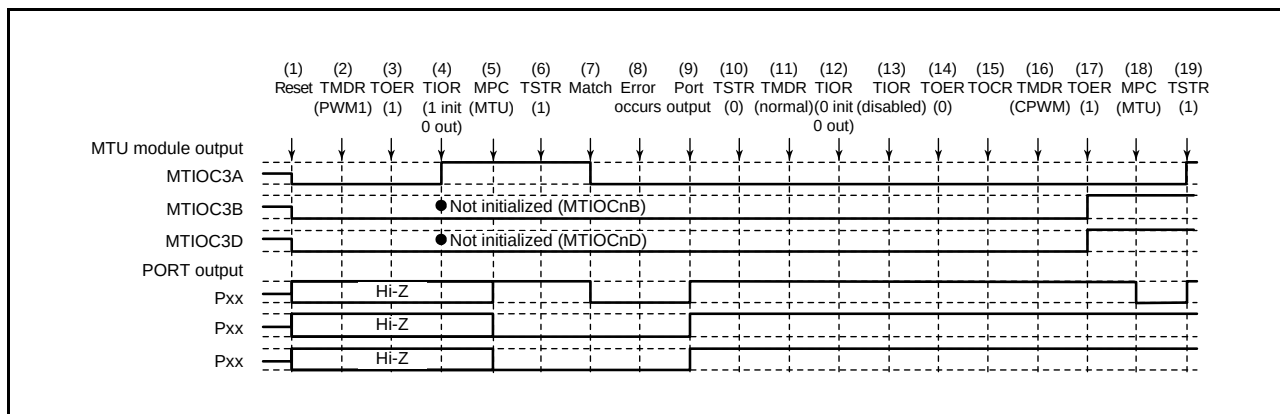

Figure 23.126 Error Occurrence in PWM Mode 1, Recovery in Complementary PWM Mode
Figure 23.126 shows a case in which an error occurs in PWM mode 1 and operation is restarted in complementary PWM mode after re-setting.
(1) to (14) are the same as in Figure 23.126.
(15) Select the reset-synchronized PWM mode output level and enable or disable cyclic output with the TOCR register.
(16) Set reset-synchronized PWM mode.
(17) Enable output in MTU3 and MTU4 with the TOER register.
(18) Use the MPC and the port mode register (PMR) for the I/O port to set up MTU output.
(19) Restart operation by setting the TSTR register.